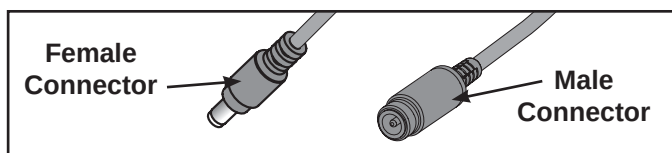

Figure 10
NOTE: The Power Cable (B) has a male and female connector at either end. Make sure the female end goes to the Monitor and the male end is at the base. See Figure 10.